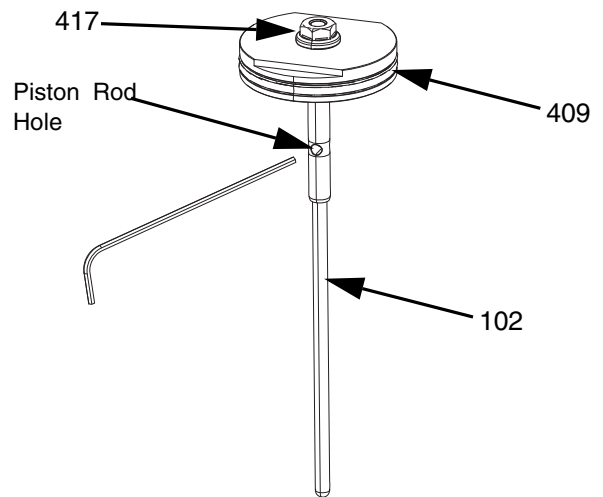

FIG. 18
- b. Place the flats of the piston (409) in a vise with the piston rod facing upward. Un-thread the piston rod (410) from the piston (409).
- c. Inspect the piston (409) and piston rod (410) for damage. Replace if necessary.
7. For valves with tip seal tip assemblies (FIG. 18):
- a. Place an Allen key through the hole in the tip assembly (102) and unthread the nut (417) using a 7 mm socket or wrench.
- b. Place the flats of the piston (409) in a vise with the piston rod facing upward. Un-thread the tip assembly (102) from the piston (409).
- c. Inspect the piston (409) and tip assembly (102) for damage. Replace if necessary.